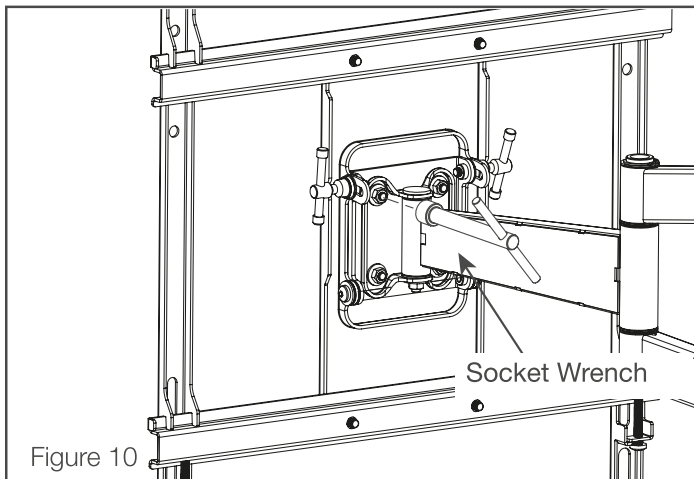

Figure 10
2. Level correction adjustments can be made by loosening the four nuts (see Figure 10) using the socket wrench (N). Rotate the screen until level and re-tighten nuts.